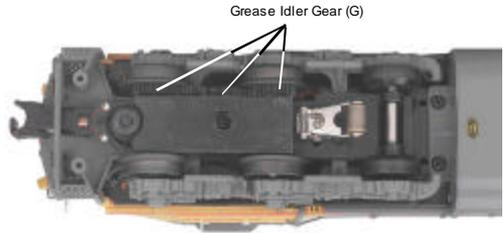

Figure 6: Greasing The Idler Gears
2. Once the cab is removed, remove the trucks by unscrewing the black Phillips motor mount screw located on the underside of the drive trucks (see Fig. 6).
Lubricate the outside truck block idler and drive gears with grease. Use the diagram shown in Figure 6 below as a guide and add grease to the points marked with a "G."